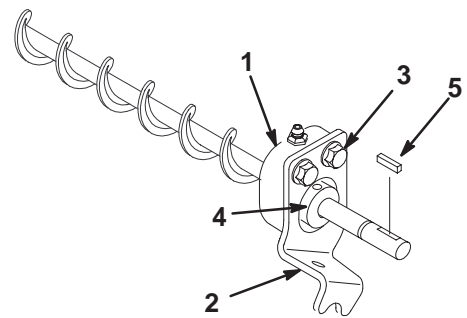

Figure 9
14. Loosen (2) bolts securing each roller brush bearing housing to brush brackets (1/2 wrench) (Fig. 9).
3. Bolts (2)
15. Using a 1/8" Allen wrench, loosen set screws securing collars to each end of roller brush shaft. Remove tape holding square key on shaft (Fig. 9).